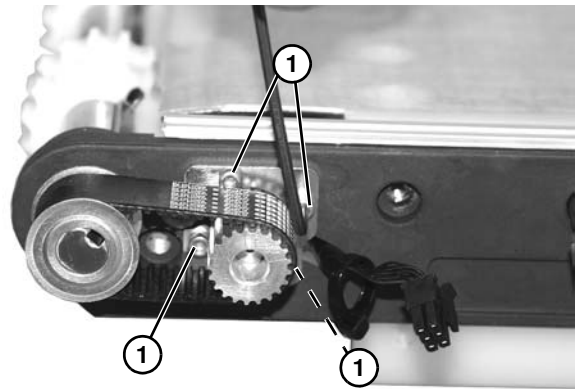

Figure 63
5. Loosen four clamp plate screws (**Figure 63, item 1**).